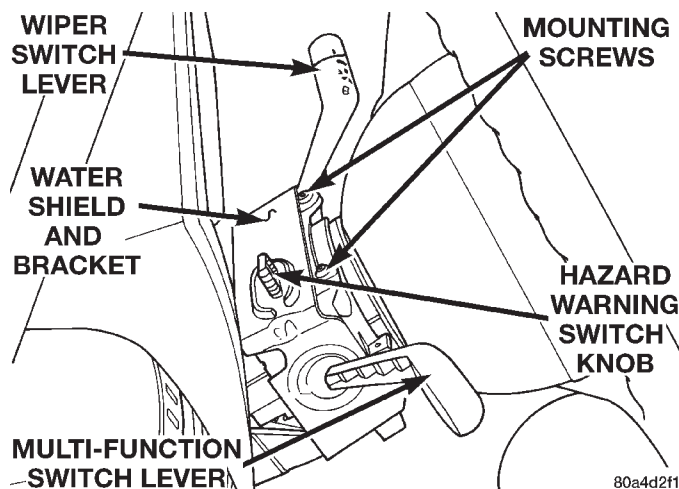

Fig. 14 Water Shield Upper Screws Remove/Install
(6) While holding the retaining tumbler depressed, pull the ignition lock cylinder and key out of the ignition lock housing.
(7) Remove the three screws that secure the lower steering column shroud to the upper shroud.
(8) If the vehicle is so equipped, move the tilt steering column to the fully lowered position.
(9) If the vehicle is so equipped, loosen the two nuts that secure the non-tilt steering column upper mounting bracket to the dash panel steering column support bracket studs. Lower the column far enough to remove the upper steering column shroud.
(10) Remove both the upper and lower shrouds from the steering column.
(11) Remove the two screws that secure the switch water shield and bracket to the top of the steering column (Fig. 14).